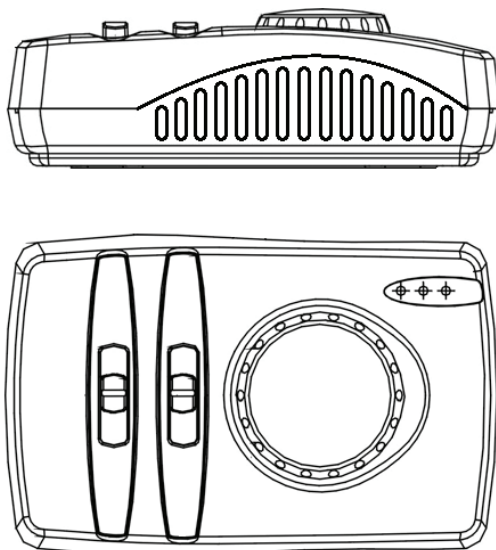

Fig. 1
- n° 1 termostato (Fig.1)
- n° 1 thermostat (Fig.1)
- 1 thermostat (Fig.1)